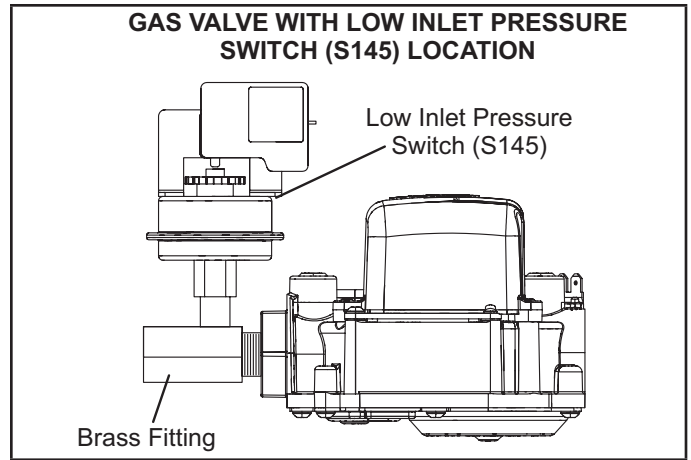

FIGURE 2
- 8 - Thread provided fitting to gas valve inlet until hand tight. Using properly sized wrench, tighten fitting 2 to 3 full turns being careful to position the side port to allow clearance for the pressure switch and harness. See figures 2 or 3.
NOTE - Some installations may require the pressure switch and fitting assembly to be positioned differently than shown in figures 2 and 3.